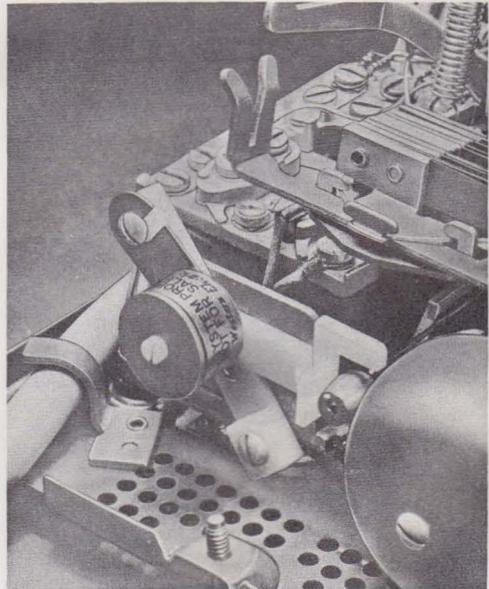

Fig. 14—KS-20419L1 Buzzer Mounted on Bracket of H1A Ringer
4. Where both ringer and buzzer signals are needed in these sets replace the C4A ringer with an H1A ringer. Mount KS-type buzzers per (Fig. 14 and 15).